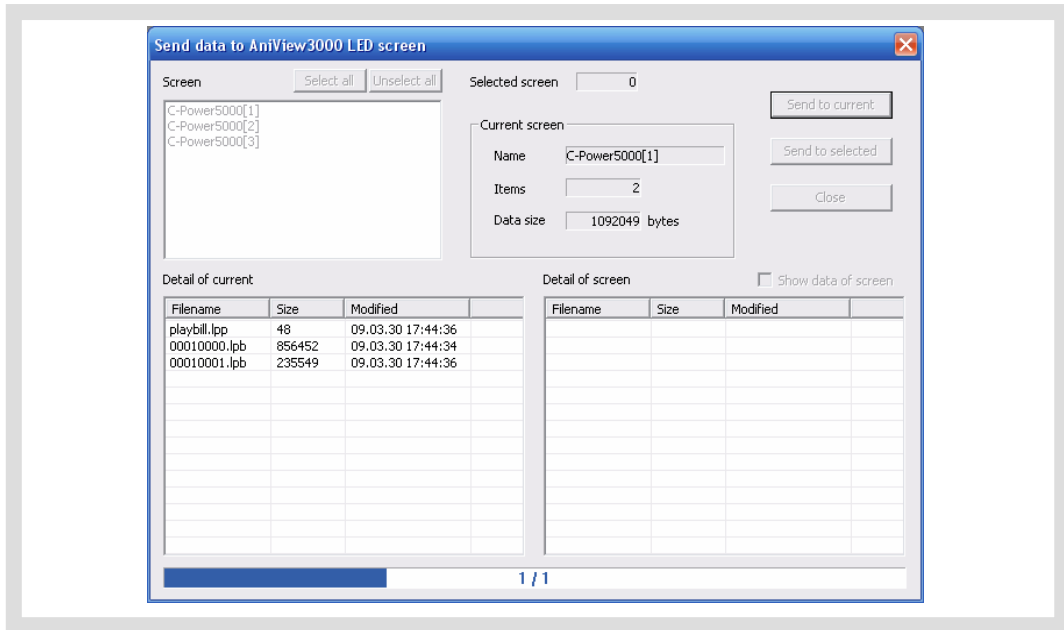

Figure27 Dialog box of sending data
- 2) Click “Play” – “Send program data...” in main menu; or click  button in tool bar, and the box "Send data to screen" pops up, as shown in Figure27. The choices are: